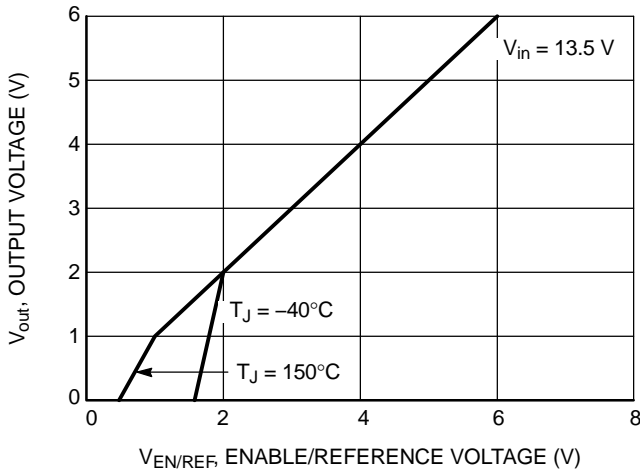
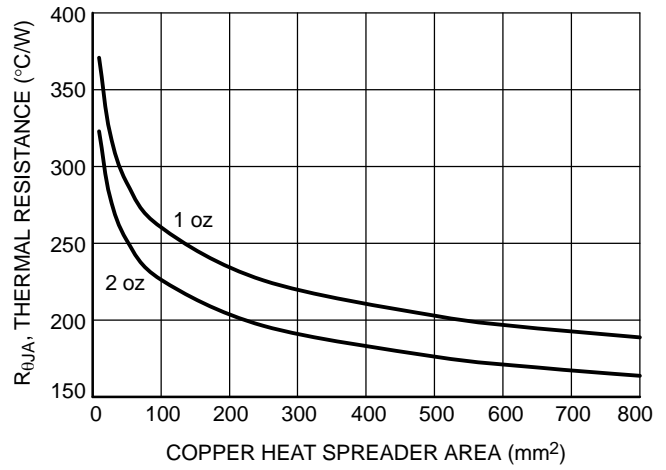

Figure 3. Output Voltage  $V_{out}$  vs. Reference Voltage  $V_{EN/REF}$
Figure 22. Thermal Resistance  $R_{\theta JA}$  vs. Copper Spreader Area
The NCV4250-2C tracking regulator is self-protected with internal thermal shutdown and internal current limit. Typical characteristics are shown in Figure 3 to Figure 22.
Since TJ is not recommended to exceed 150°C, then the NCV4250-2C soldered on 645 mm2, 1 oz copper area, FR4 can dissipate up to 0.65 W when the ambient temperature (TA) is 25°C. See Figure 22 for RthJA versus PCB area. The power dissipated by the NCV4250-2C can be calculated from the following equations: